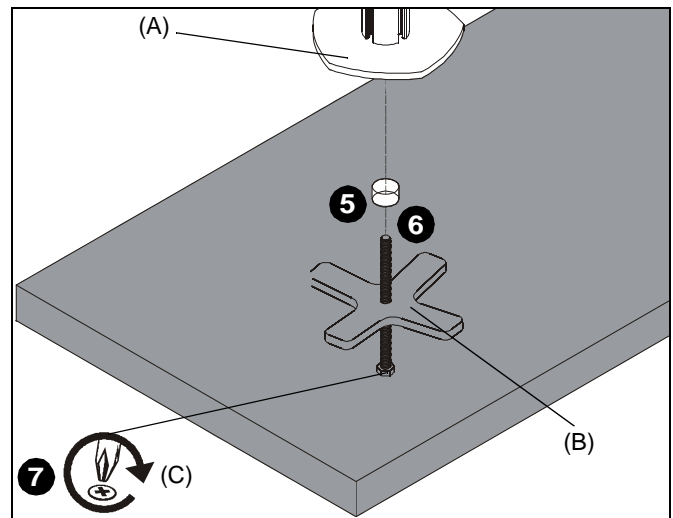

Figure 3
5. Position mount on desk so that center hole of column plate (A) is centered over grommet hole. (See Figure 3)
6. Insert 5/16-18 x 5" bolt (C) through grommet bracket (B), grommet hole and thread into center hole on underside of column plate (A). (See Figure 3)
7. Tighten 5/16-18 x 5" bolt (C) until grommet bracket (B) is tightened against underside of desk and column mount is securely mounted to desk. (See Figure 3)